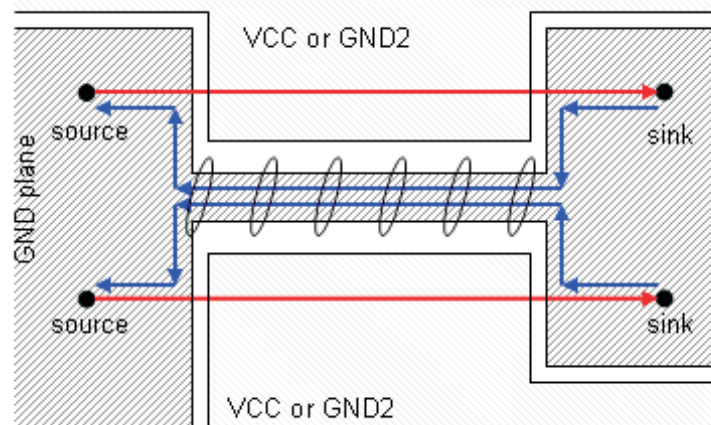

Figure 10. Crosstalk Induced by the Return Current Path
- With a proper signal routing, crosstalk also can arise in the return current path due to discontinuities in the ground plane. Always take care of the return current (Figure 10).
Figure 10: If the trace routing of two signals is done properly, it is still possible to induce noise in the return current path by means of crosstalk. In this case, a loop area and crosstalk in the return current path have been created.